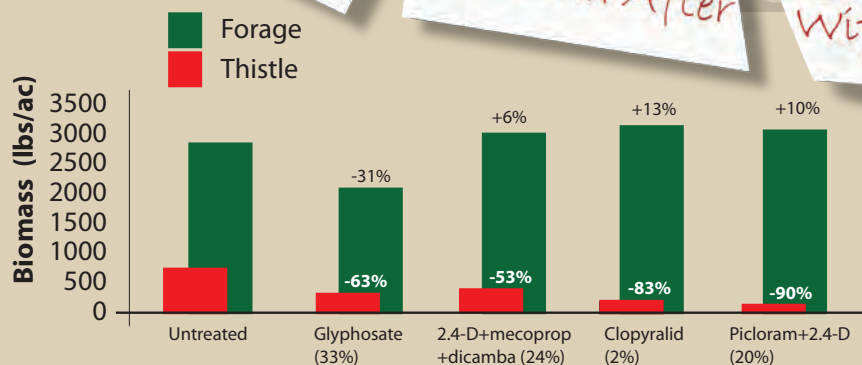

Figure 4: Comparison of forage and CT biomass 1 year after wiping. (rates based on v/v % solutions of commercial formulation with water)
1. Wiping with a 33% concentration of glyphosate reduced CT biomass and stem density, but also resulted in the loss of forage biomass of up to 31% (See Fig. 4).
2. Wiping with broadleaf herbicides at cost equivalent concentrations ranging from 2-24% led to similar or better reductions in CT, but also maintained forage yields (See Fig. 4).